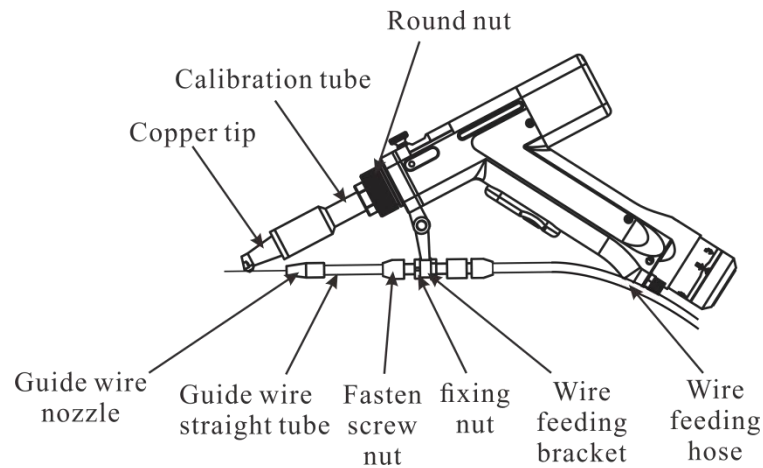

Figure 2-1 Installation diagram of welding torch
5. Tighten the wire nozzle and the straight tube of guide wire, string the lock nut and the straight tube of the wire guide into the end of the wire outlet, tighten the nut with a wrench until the straight pipe of the guide wire does not shake. As shown in Figure 2-1.